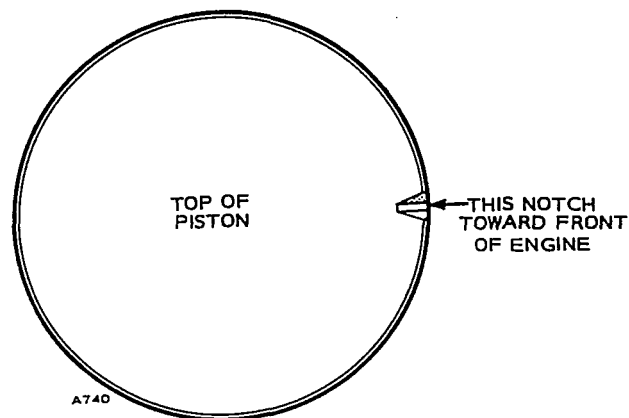

FIGURE 75. PISTON TOP IDENTIFICATION
4. Oil cylinder walls and pistons. Install each piston in proper cylinder using a suitable installer. Each assembly should be installed with "V" mark on piston toward front of engine. The word "Front" may be found on some piston tops. See Figure 75.